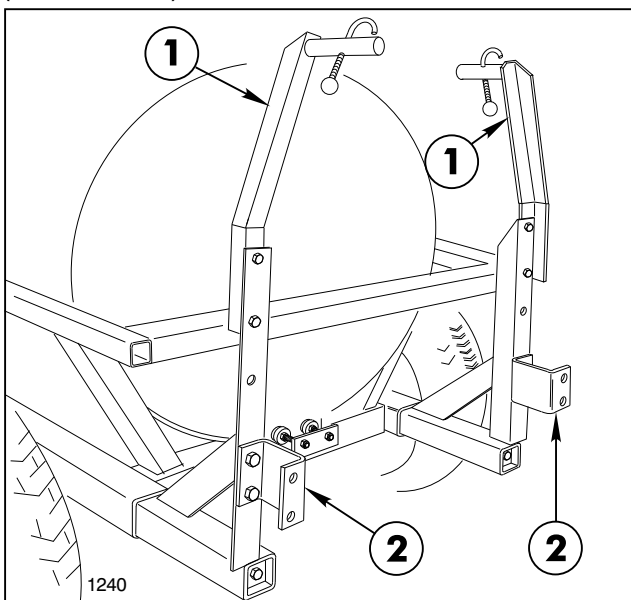

FIG. 12
4. Install the (2) Boom Hold-In Assemblies to the top of the Boom Mount uprights using four (4) 1/2" x 1-1/4" cap screws, flat washers and lock nuts. See FIG. 12,
5. Attach the two "U"-shaped Boom Mounting Brackets to the bottom of the Boom Mount uprights with (4) 1/2" x 1-1/4" cap screws, and lock nuts. (See FIG. 12.)